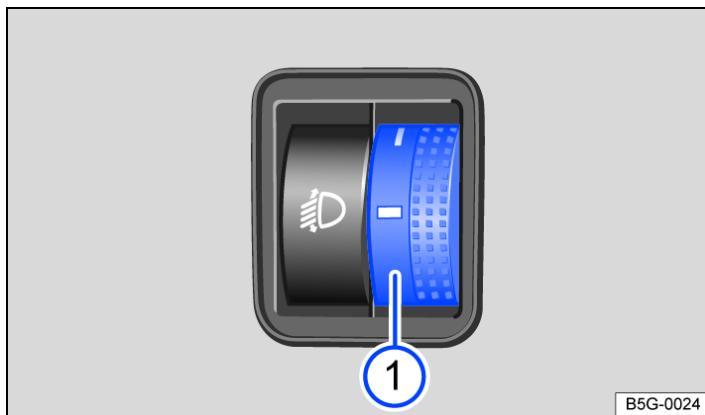
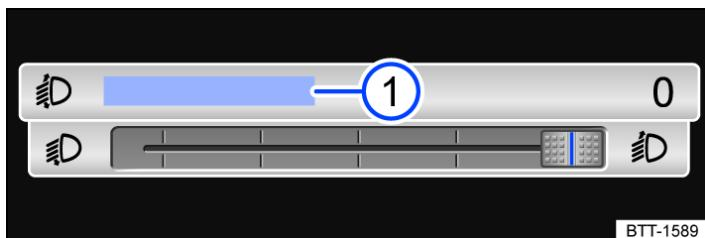

Fig. 1 Next to the steering wheel: control for headlight range control 1.
Fig. 2 In the Infotainment system: slider for headlight range control.
Depending on the equipment level, the headlight range can be adjusted either with the control → *Fig. 1* or with the slider in the Infotainment system → *Fig. 2*.
- Touch the function button **Headlight range control** → *Fig. 2* 1.
- Turn the control → *Fig. 1* 1 to the required position (example vehicle load level).